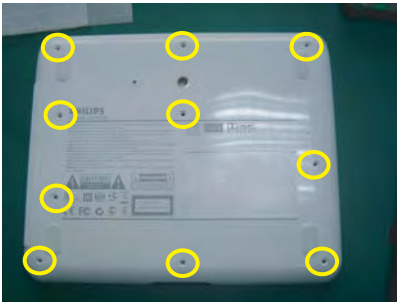

Fig.1
1. Back side of the set as shown in Fig.1